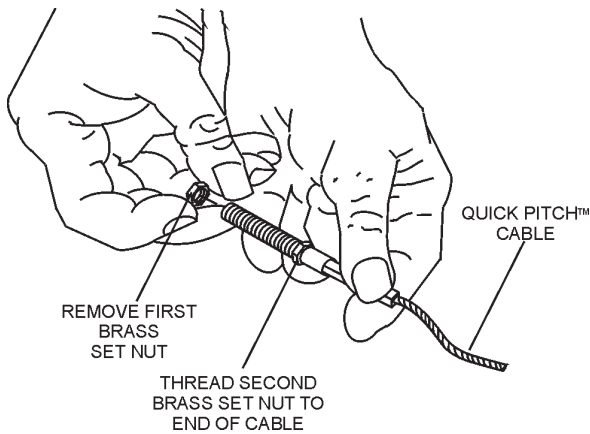

Figure 7. Quick Pitch™ Cable
- Remove one brass set nut from the Quick Pitch™ cable end as shown in Figure 7.